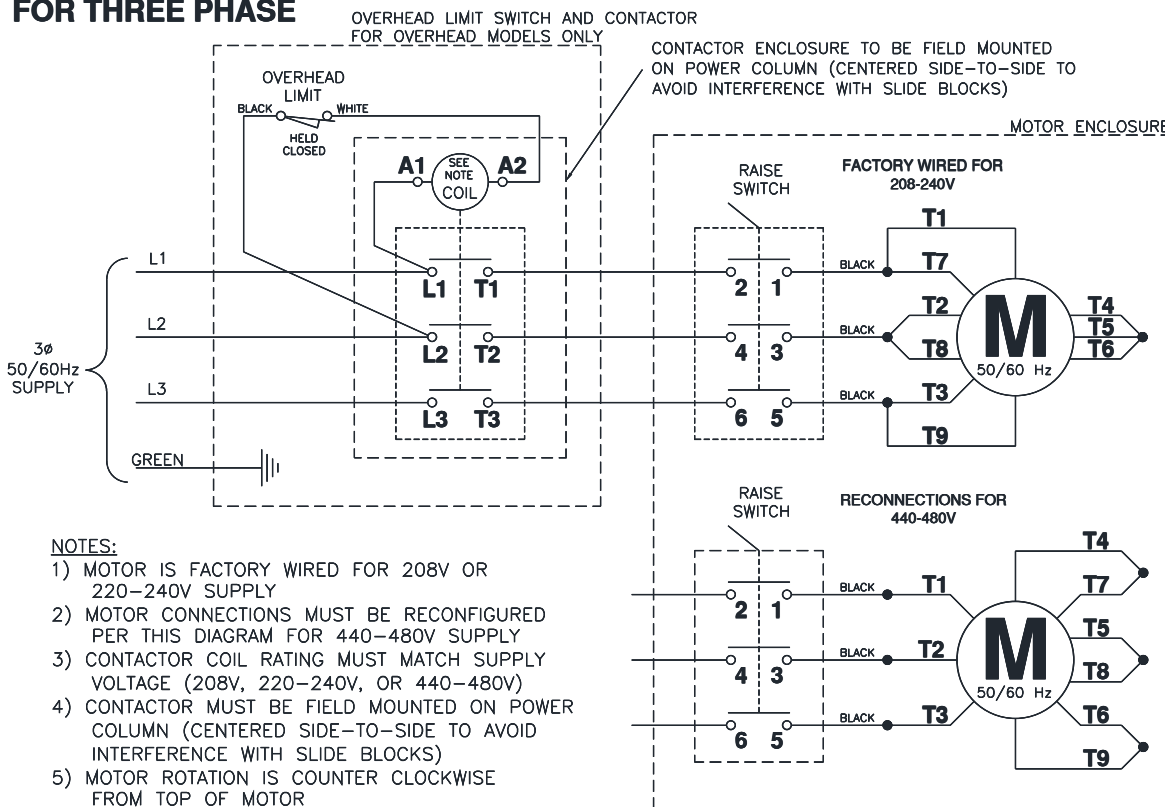

Fig. 16 – Electrical Wiring Diagram
- 44) Connect the Overhead Limit Switch Cord to Power Unit as shown in **Fig 16**.
- 45) Connect Power Unit to suitable electrical source as shown in **Fig 16**.